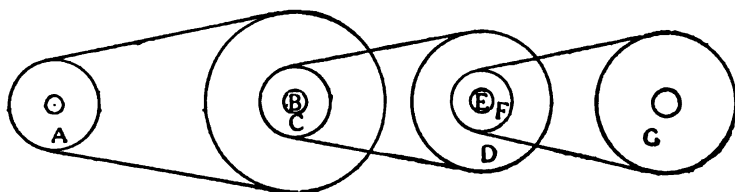

Fig. 7
It frequently is impossible to use a single pulley large enough to reduce or increase the speed the desired amount between two shafts. Under such circumstances the desired result may be accomplished by using a train of pulleys (Fig. 7). In this diagram the driving-pulley (A) is connected by belt to a large pulley on the other shaft (B). On this driven shaft is another small pulley (C), which in turn is connected to a large pulley (D) on the shaft (E). This shaft carries another small pulley (F), which drives a third large pulley (G). By this arrangement the speed of the final pulley (G) is reduced the same amount as if a single pulley four times as large had been placed on the shaft (B). This may be more easily understood if we consider that each of the small pulleys is one-half the size of the larger pulleys. Thus, if (A) revolves at 100 revolutions per minute (B) will